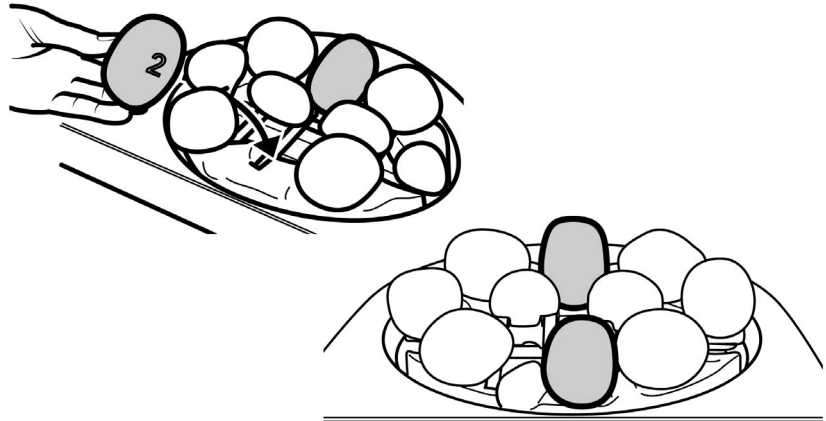

Figure 12. Pebble number '2' location
8. There are two pebbles numbered '2' on the underside. Locate these on the pebble base between the ends of the inner left and right ceramic support rods (See figure 12).